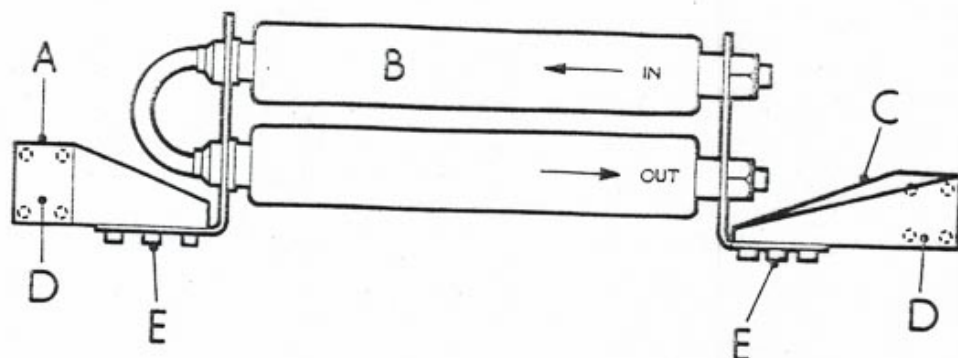

Fig.5. Fitting oil cooler.
- 11 Referring to Fig.5, fit the brackets 592041 (RH) and 592042 (LH) to the oil cooler, using bolt 255206 ($\frac{1}{4}$ " UNF x $\frac{3}{8}$ " long) (6), plain washer 3840 (6), spring washer 3074 (6) and nut 254810 ($\frac{1}{4}$ " UNF) (6).
- 12 Fit the oil cooler and brackets to the grille panel baffle plates, using bolt 255206 ($\frac{1}{4}$ " UNF x $\frac{3}{8}$ " long) (3), plain washer 3840 (8), spring washer 3074 (8) and nut 254810 ($\frac{1}{4}$ " UNF) (8) as illustrated in Fig.5.